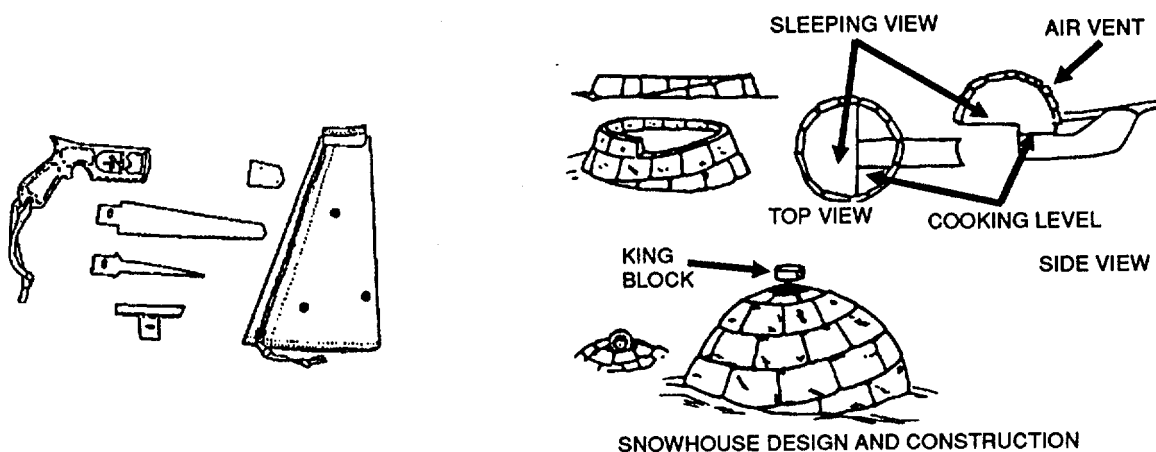

Figure 2-59. Ice Saw-Knife
- ak. Ice Saw-Knife. The ice saw-knife (See Figure 2-59) is a combination tool for use in extreme cold weather survival conditions, when the water and ground has frozen solid. It is to be used to cut ice and small (2-4 inch diameter) trees or brush to be used as shelters.